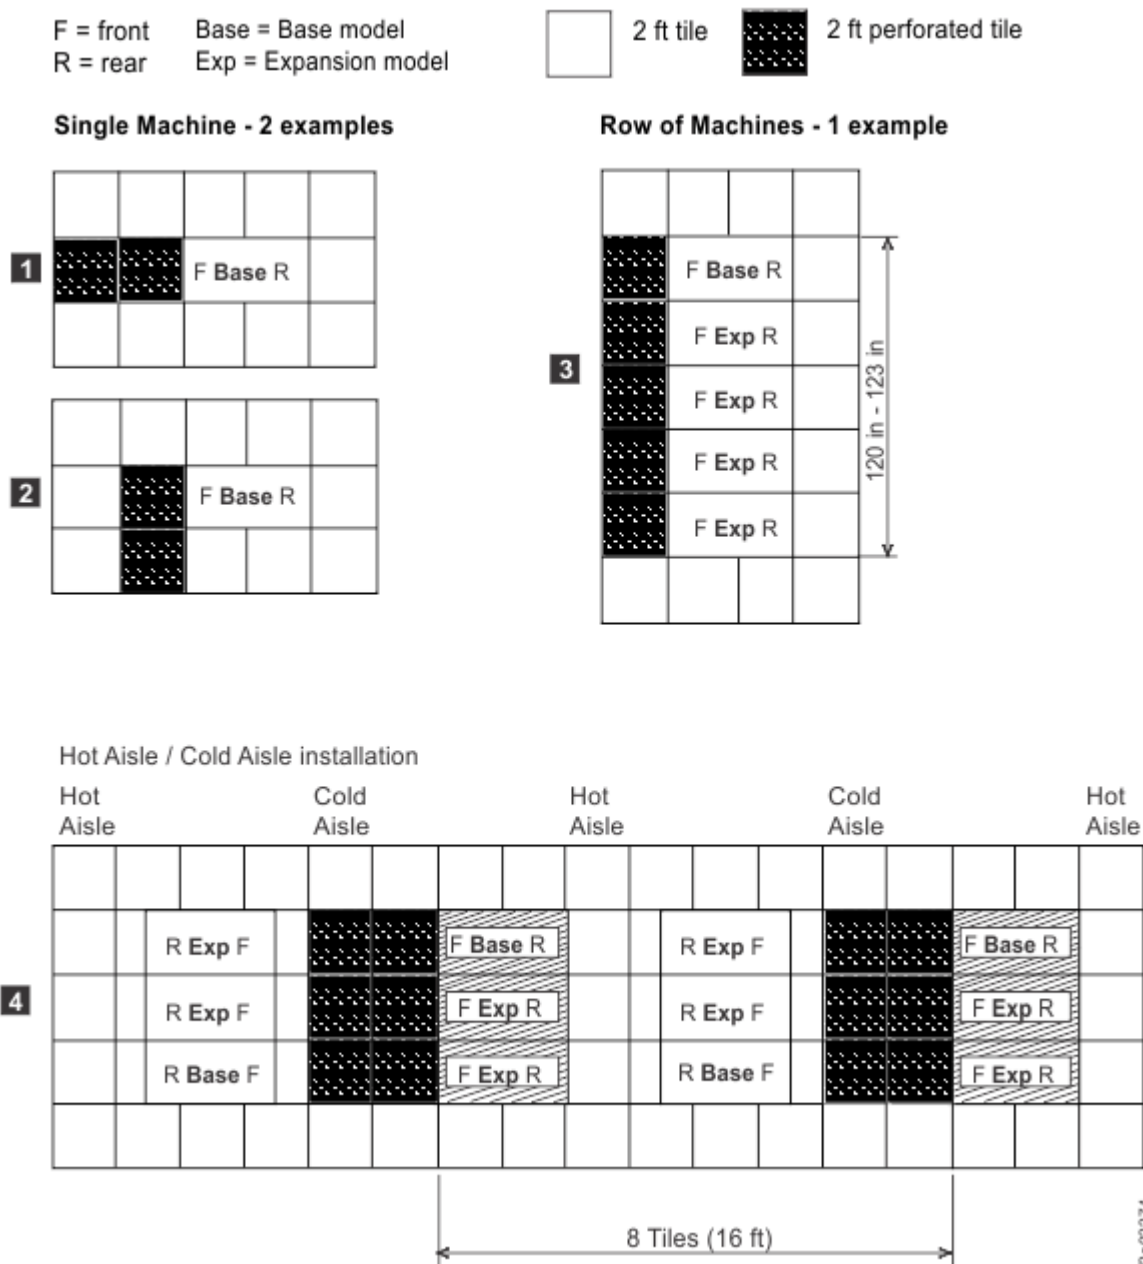

Figure 20. Typical rack and perforated tile locations for hot and cold aisles
- a. For stand-alone base frames, install two fully perforated tiles in front of each base frame, as shown in Figure 20 on page 132 in the single-machine examples (**1** and **2** in the figure).
- b. For a row of storage systems, install a row of perforated tiles in front of the storage systems as shown in Figure 20 on page 132 (**3** in the figure).
- c. For groupings of storage systems, where a hot aisle/cold aisle layout is used, use a cold aisle row of perforated tiles in front of all storage systems. An example of a possible minimal arrangement is shown in Figure 20 on page 132 (**4** in the figure).
**Note:** Keep in mind that the example represented in Figure 20 on page 132 meets service clearance requirements. However, floor loading requirements might require a wider hot aisle to provide up to 30 inches of non-overlapping clearance (for total of 60 inches between the rear side of the frames on either side of the aisle.)